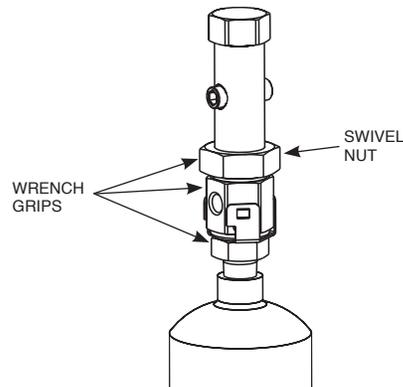

FIGURE 5-18
4. Position actuator swivel body in desired orientation and wrench-tighten to actuator base until Preventor is held tight in place. See Figure 5-18.